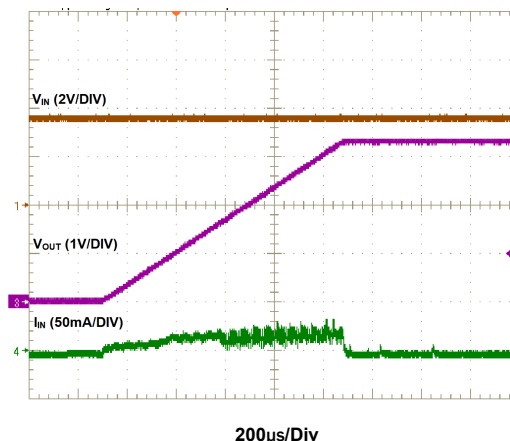

Figure 2. ISL9122A Start-Up with $V_{IN} = 3.6V$ and $V_{OUT} = 3.3V$
For both evaluation boards, the default output voltage is set at 3.3V. Use the following procedures to configure and power-up the board for proper operation. During the power-on process, the expected waveforms are shown in Figure 2.
6. Monitor the output voltage start-up sequence on the scope. The waveforms should look similar to those shown in Figure 2.